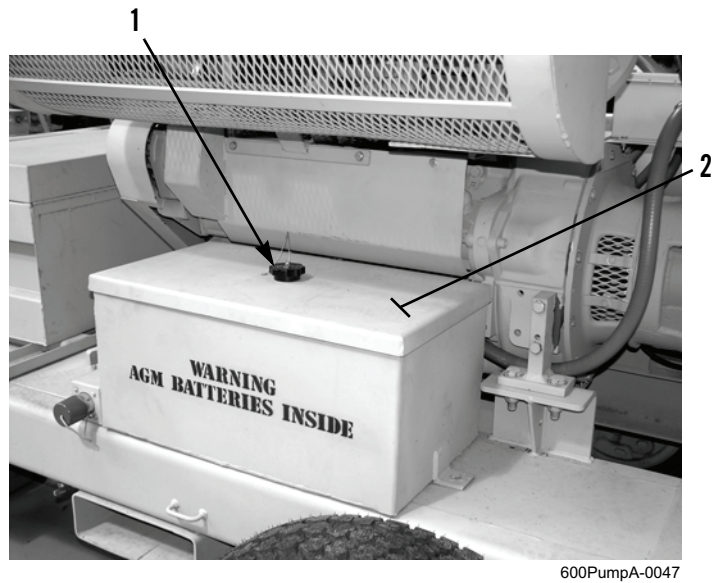

Figure 1. Battery Box.
1. Access batteries by turning knob (Figure 1, Item 1) counterclockwise (left) and removing knob and battery box lid (Figure 1, Item 2).